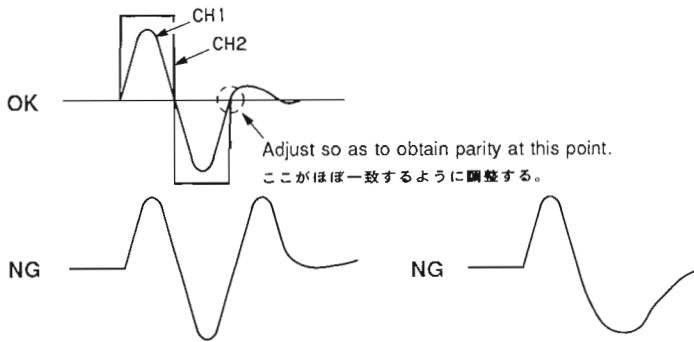

Fig. 6
- ③ Select Mode 5 (ref. page 14).
- ④ Select the spindle Mode 03 (CD mode, ref. page 15) then push PAUSE (KICK HOLD mode).
- ⑤ Adjust VR306 until the waveform at TP314 matches the waveform as shown in figure 6.
- ⑥ Press PLAY button to cancel KICK HOLD mode.
- Note:** To obtain the waveform shown in the picture on the oscilloscope; (1) set the trigger selector to CH2 (Channel 2 triggering), (2) set the trigger mode to the normal trigger mode (3) adjust the trigger level so that the waveform of CH2 coincides with CH1's waveform (see Waveform Photo 9).
- ④ VR306にてFig. 6 の様な波形になるように調整する。
- ⑤ PLAY KEYを押してKICK HOLDを解除する。